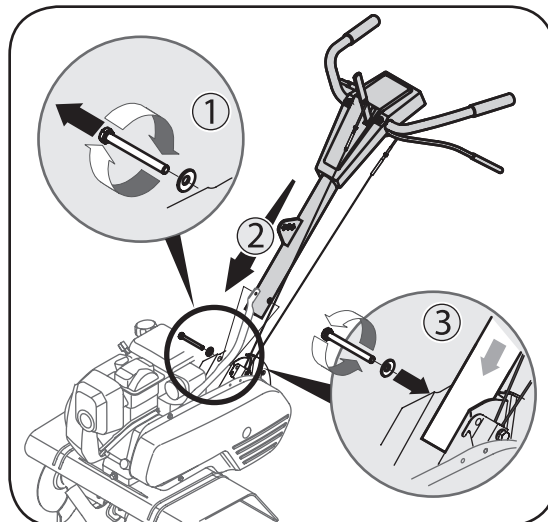
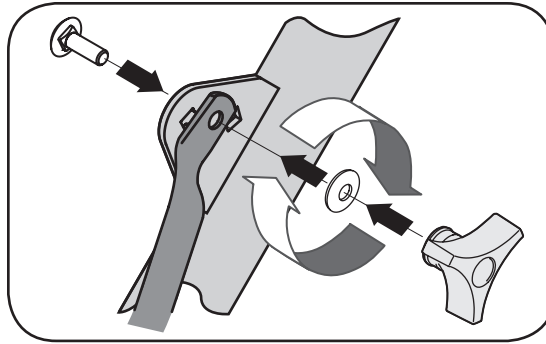

Figure 3-3: Insert handle into frame.
Figure 3-4: Remove hardware from lower handle.
4. Remove the hex bolt and cupped washer from the right side of the frame. Hold the cable guide bracket on the left side of frame as it will fall when the bolt is removed. Figure 3-3 Step 1.
5. Insert handle into tiller frame as shown. See Figure 3-3 Step 2.
6. Insert bolt through the cupped washer, frame, handle and into the cable guide bracket (note the notch in the cable guide bracket goes over the flange on the frame.) See Figure 3-3 Step 3. Tighten the bolt securely after securing handle brace as seen in Figure 3-4.
8. Insert the carriage bolt through the welded bracket on the handle, bell washer, handle brace and into the hand knob. See Figure 3-4.
9. Select one of the three handle height positions (three notches in welded handle bracket) and tighten the hand knob to secure the handle in the desired position. Figure 3-4. Return to lower handle and tighten the hex bolt securely